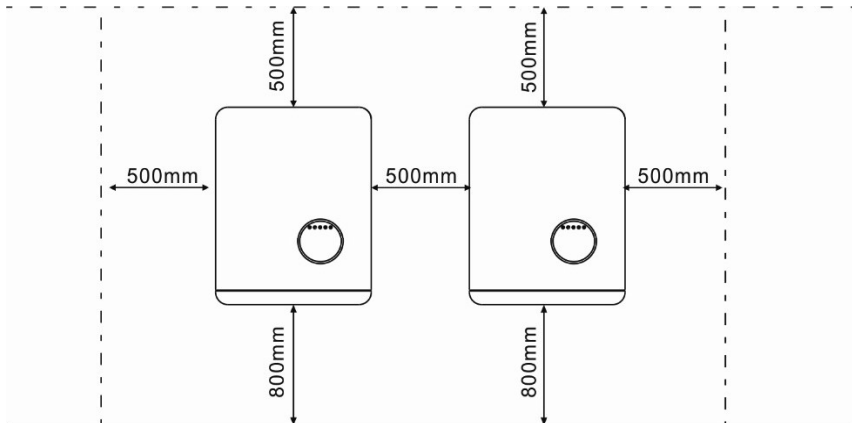

Figure 4.2 Inverter Mounting clearance
1. According to Figure 4.2, select the bracket mounting height and mark the mounting hole. After marking, punch the hole according to the mark. For brick wall drilling, expansion bolts shall be suitable for fixing.